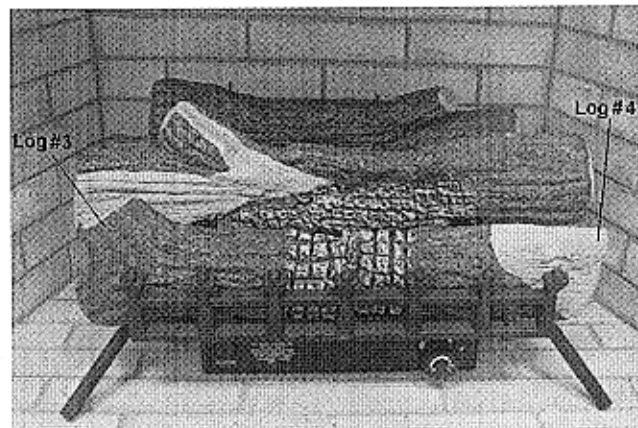

Figure 20 - Installing Log #3 and Log #4
4. Locate log #3 and log #4 over the grate fingers on the front bracket with the pins on the back of logs sliding into the holes on the front of the grate base (see Figure 20).